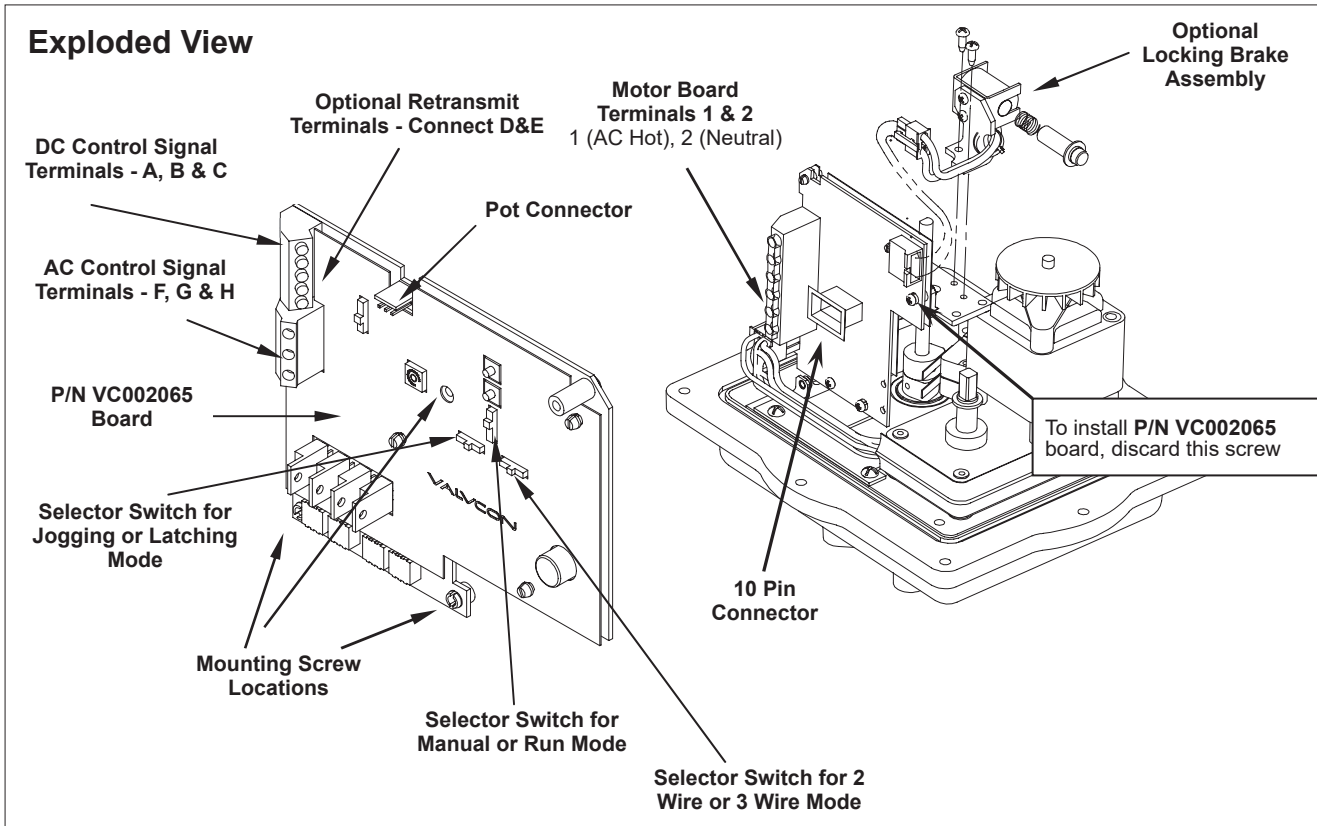

Figure 9.
1. Remove and discard screw that secures Motor Board to the upper bracket. (See Figure 9).